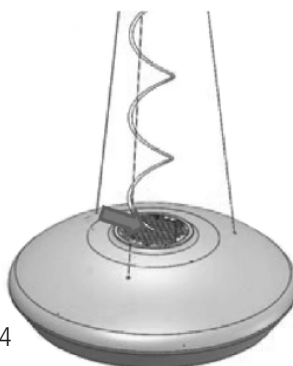

FIG.4
- › Put the power cable through the air outlet grill (Fig.4). The ceramic cover must perfectly cover the metal part. Take care when placing it into position.